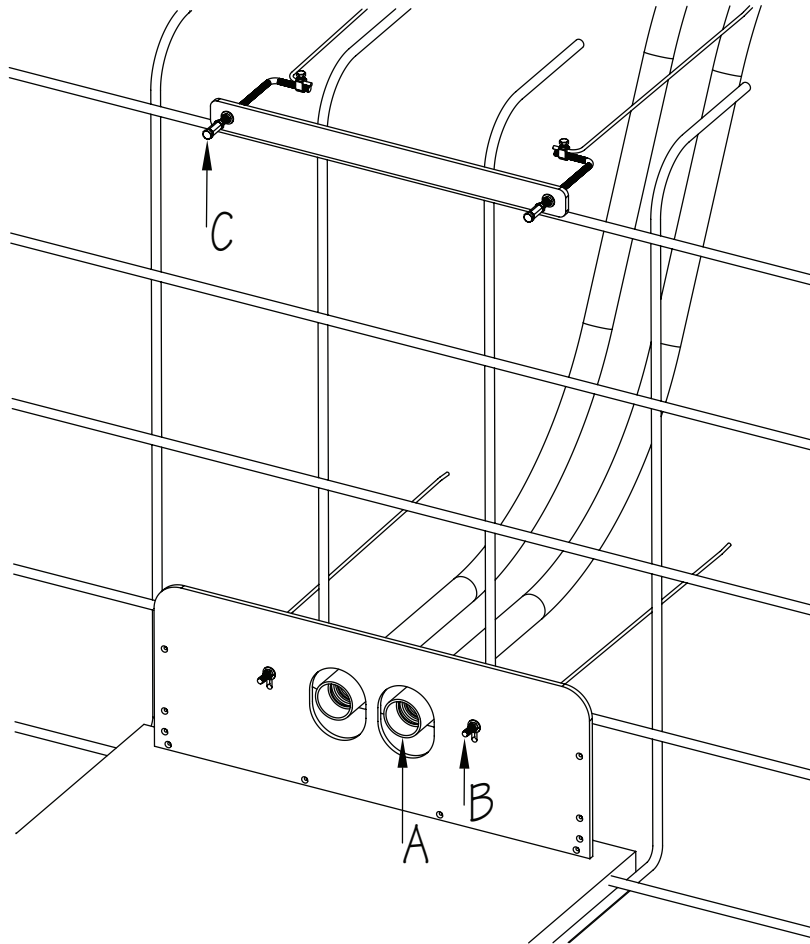

Fig. 7
- 4.1 Prior to shooting gunite, it is CRITICAL that the openings of the PVC Couplings (A), Threaded Rods (B), and Sacrificial Bolts (C) are covered. Gunite cannot be embedded in these areas (Fig. 7).